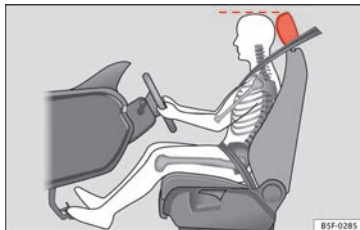

Fig. 76 Correct head restraint position for the driver.
- Adjust the head restraint so that its upper edge is at the same level as the top of your head, or as close as possible to the same level as the top of your head » **Fig. 76.**